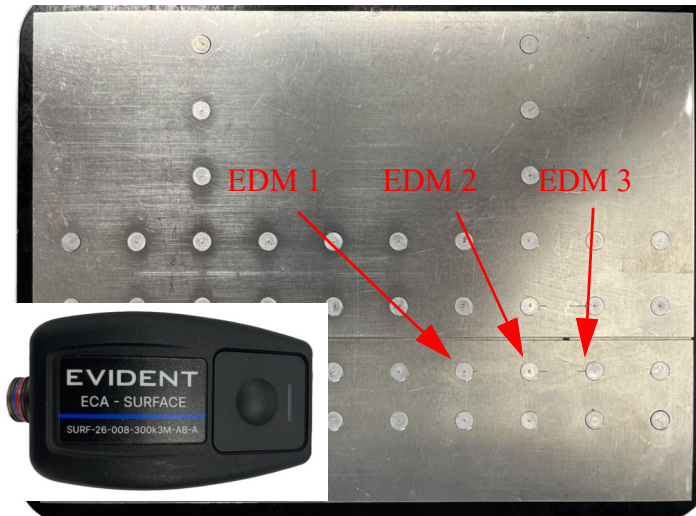

Figure 4-87 Position the Probe
- Position the probe on the row of fasteners on the reference standard (See Figure 4-87 on page 183).